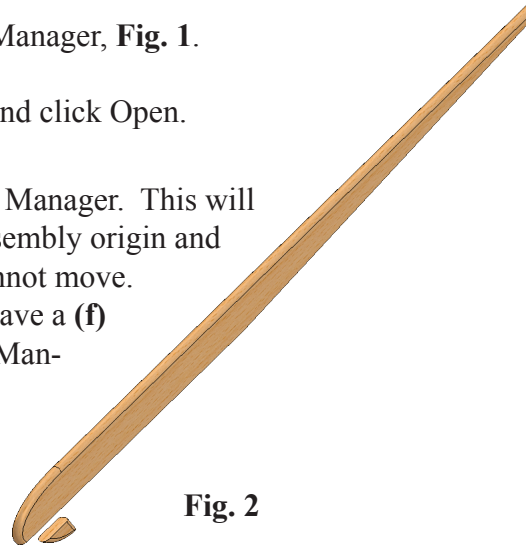

Fig. 2
- Step 8. Click approximately where the Shark Tooth is positioned in **Fig. 2**.